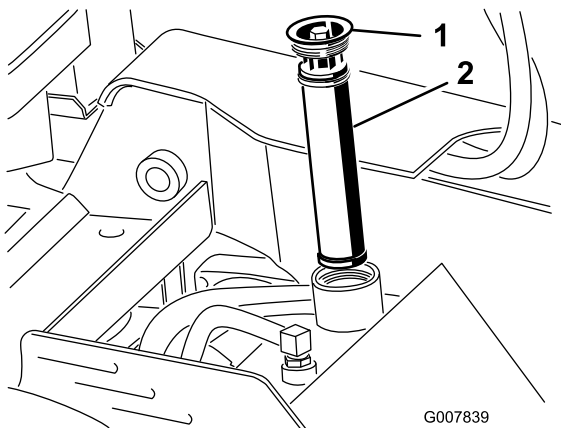

Figure 62
4. Remove and discard the old filter (Figure 62).
5. Install the replacement hydraulic filter and filler cap (Figure 62) and torque the bolt on top to 13 to 15.5 N·m (110 to 140 in-lb).
7. Remove the hydraulic-tank filler cap and filter (Figure 62).
12. Install the hydraulic filter and filler cap (Figure 62) and torque the bolt on top to 13 to 15.5 N·m (110 to 140 in-lb).